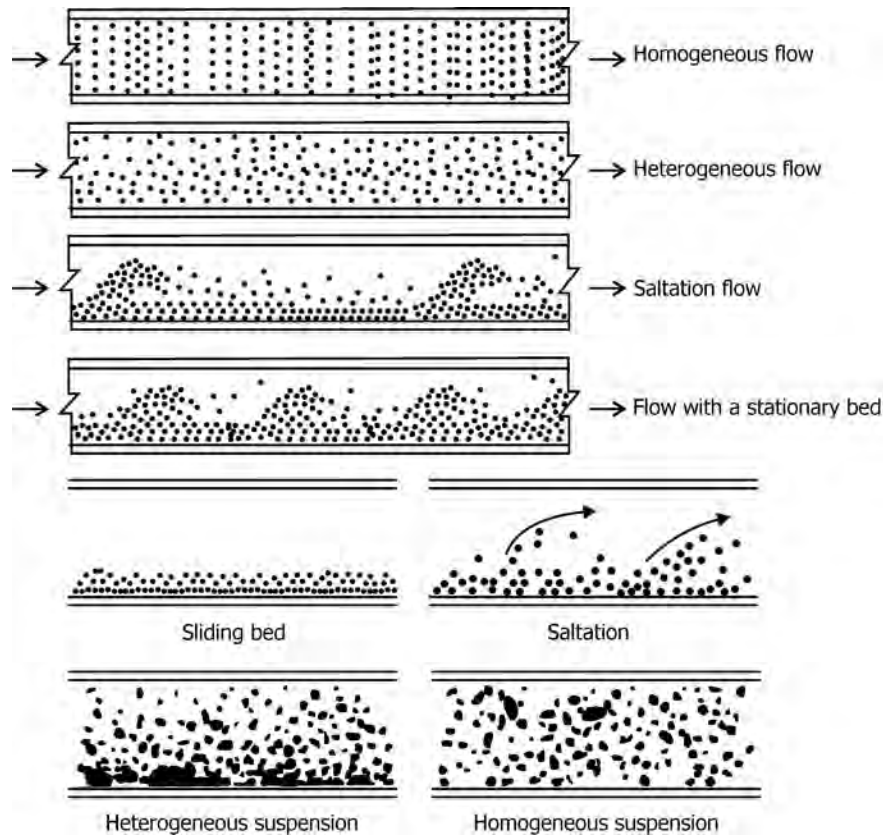

FIGURE 7.17 Regimes of flow for settling slurries in horizontal pipelines.
- > The regimes are illustrated in Figures 7.17 and 7.18.